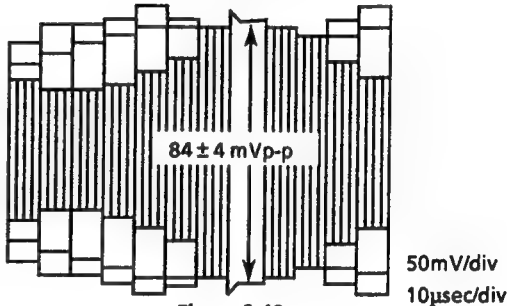

Figure 2-12.
- Adjust R321 (recording Y control) so that the sync tip be  $84 \pm 4\text{mVp-p}$  as shown in Figure2-12.